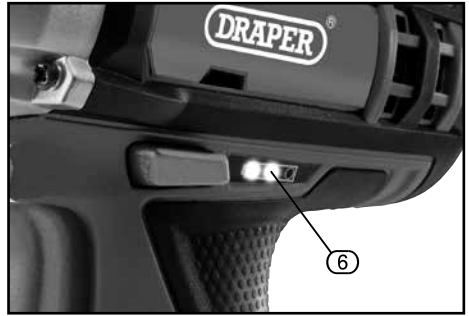

FIG. 1
8.1 BATTERY PACK CHARGE STATUS – FIG. 1